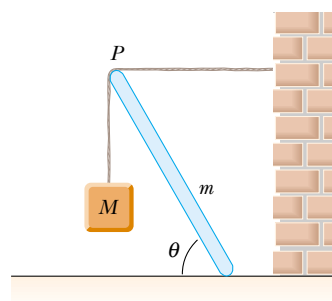

Figure P12.55
55. A uniform beam of mass m is inclined at an angle θ to the horizontal. Its upper end produces a ninety-degree bend in a very rough rope tied to a wall, and its lower end rests on a rough floor (Fig. P12.55). (a) If the coefficient of static friction between beam and floor is μ_s , determine an expression for the maximum mass M that can be suspended from the top before the beam slips. (b) Determine the magnitude of the reaction force at the floor and the magnitude of the force exerted by the beam on the rope at P in terms of m , M , and μ_s .